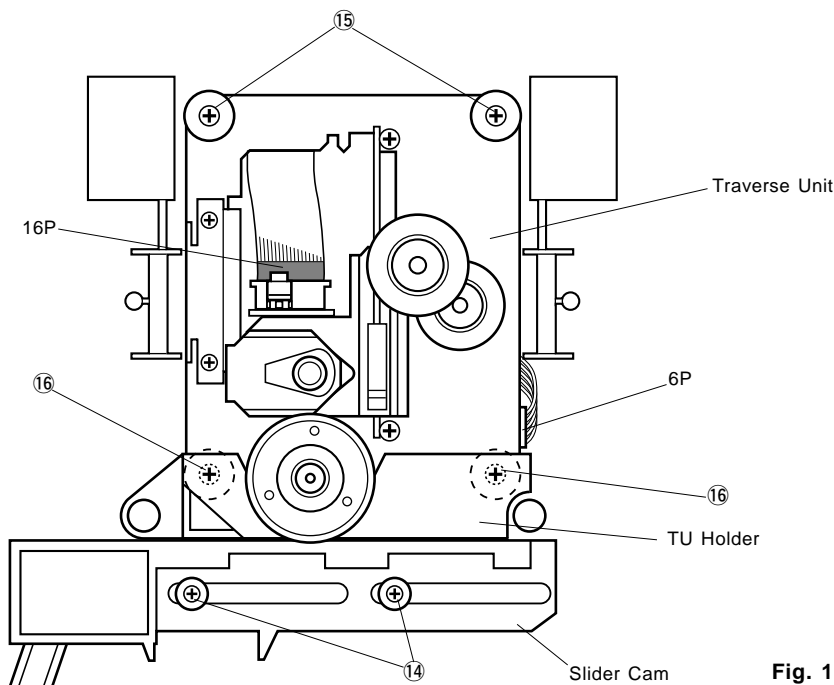

Fig. 12
- f. Remove 4 screws ( 14 and 15 ) in Fig. 12.
- h. Take out the Traverse Unit with the Slider Cam and the TU Holder in Fig. 12.
- i. Remove 2 screws ( 16 ) and then remove the TU Holder in Fig. 12.